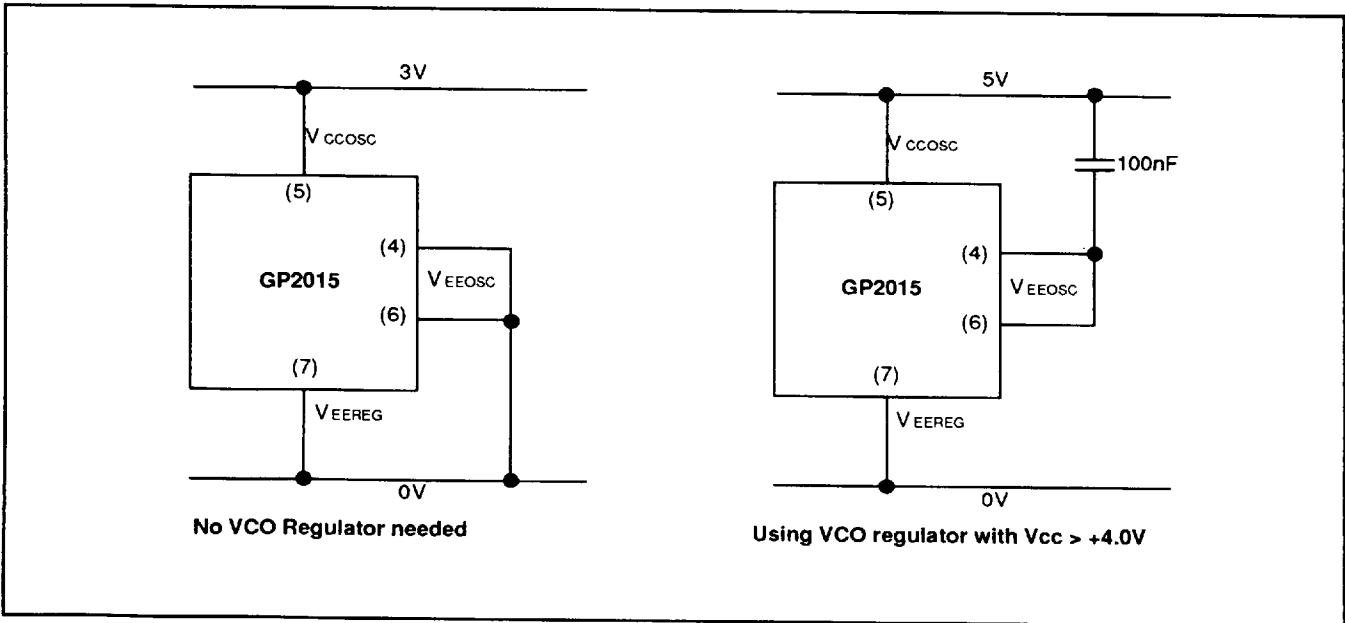

Fig. 7 VCO power-supply connections
- Both pins 4 & 6 ($V_{EE} (OSC)$) are connected internally. If the VCO regulator is used ($V_{CC} = +5.00V$ nominal) then both pins 4 & 6 must be left floating, with either pin de-coupled to $V_{CC} (OSC)$ with a 100nF capacitor. In this configuration, the dc output level of the regulator can be monitored from $V_{EE} (OSC)$, with respect to $V_{CC} (OSC)$ - NOT 0V (V_{EE}/GND). For operation at $V_{CC} < +4.0V$, the VCO regulator cannot be used, and both $V_{EE} (OSC)$ pins must be shorted to $V_{EE} (REG)$ (Pin 7) - see Fig. 7.